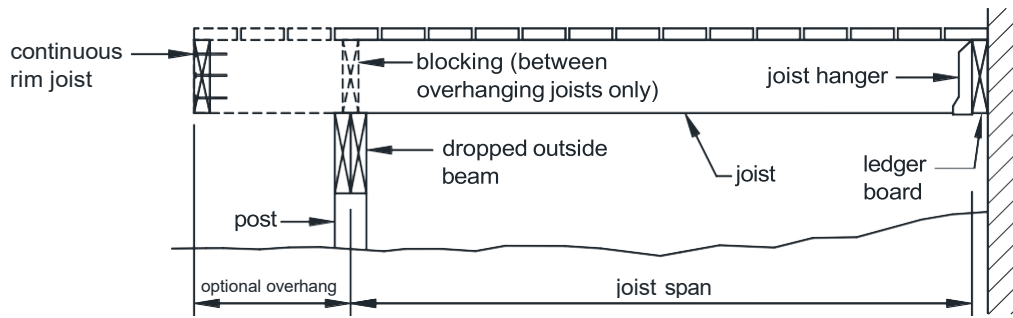
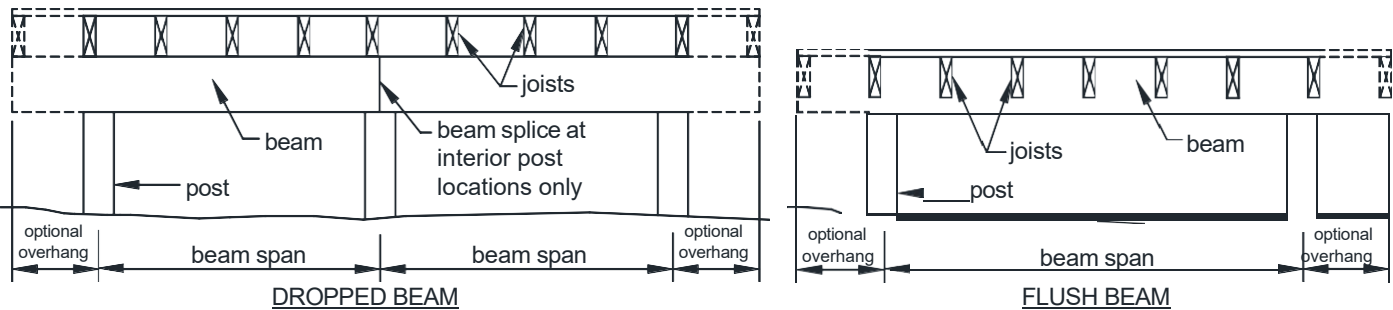

FIGURE 5: SINGLE SPAN DECK- JOISTS ATTACHED AT HOUSE WITH DROPPED BEAM
FIGURE 13: BEAM TYPES
- Single span decks are framed with joists that have one span between supports (not including overhang) as shown in FIGURES 5 and 6. Multi-span decks have joists with more than one span which bear on multiple beams as shown in FIGURES 7 and 8.
- Attach a continuous rim joist or blocking at the joist ends as shown in FIGURES 5, 7 and 9. Attach a rim joist to the end of each joist with (3)10d nails or (3) #10 by 3-inch wood screws.
- Dropped beams have joists bearing above; flush beams have joists with hangers bearing on its sides; see FIGURES 5 through 9 and FIGURE 13.
- Beam span length, as shown in FIGURE 13, is measured between the centerlines of two adjacent posts and does not include the beam overhangs.
- Beam plies are permitted to have splices. However, splices shall be located at inside posts connections as shown in FIGURE 13.